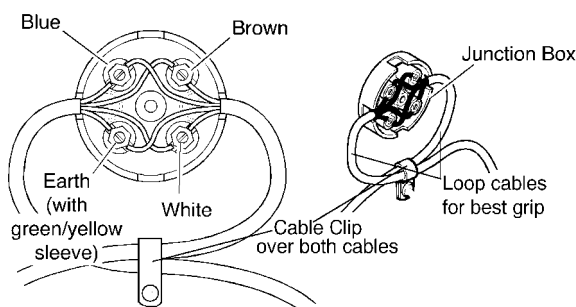

Figure 26
8.12 Select a suitable location for the fan cable junction box. Fit the box and connect the cables as follows (see figure 26):
8.12.7 Connect the leads to the junction box as shown in figure 26. Ensure that the colours of the leads in the fan cable connect with the matching colours in the appliance cable.
8.12.8 Fit the cable clip over both cables as shown in figure 26. Place the clip in position against the wall. Mark the wall through the fixing hole. Move the cables and clip out of the way. Drill and plug the wall. Replace the clip. Screw the clip to the wall making sure that the two cables are firmly clamped. Refit the junction box cover.